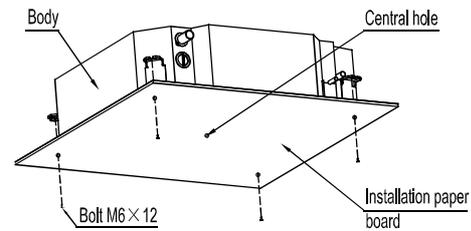

Fig.5-6
- After installing the body, please fasten the installation paper board onto the air conditioner with bolts(M6X12) to determine in advance the sizes and positions of the hole opening on ceiling. (Refer to Fig.5-6)